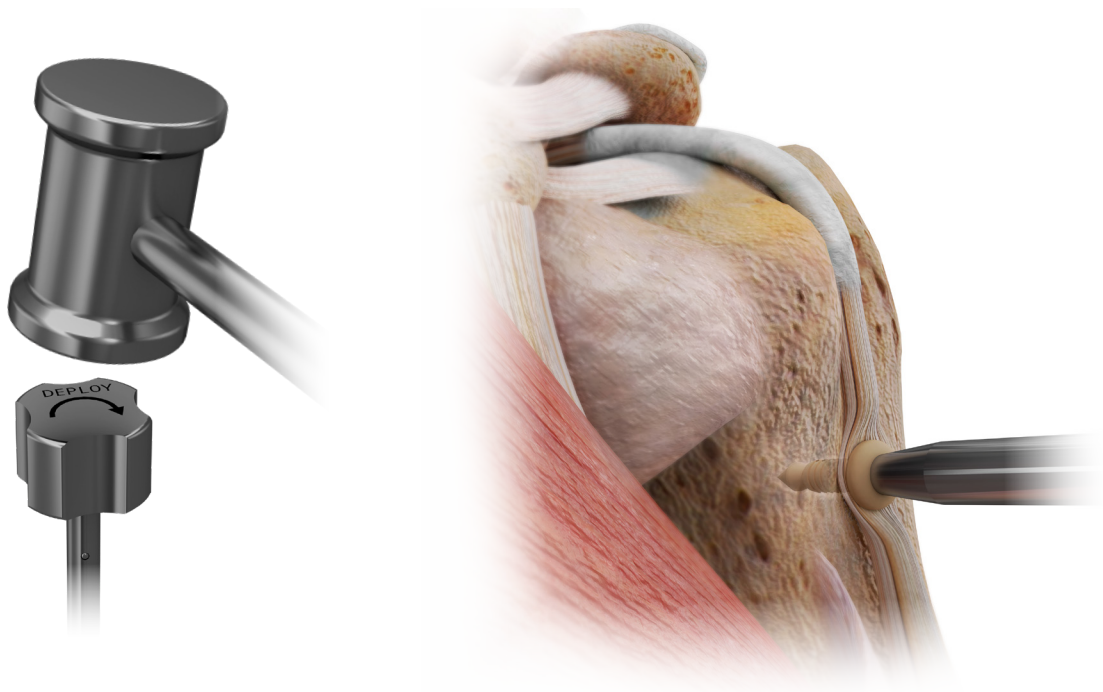

FIGURE 5
- 2 Use a mallet to drive the assembly into the bone until the head of the implant bottoms out on the tendon (Figure 5). Do this by starting with gentle taps initially and once it perforates through bone, softly push or tap with axial force until the implant head sits flush on tendon.